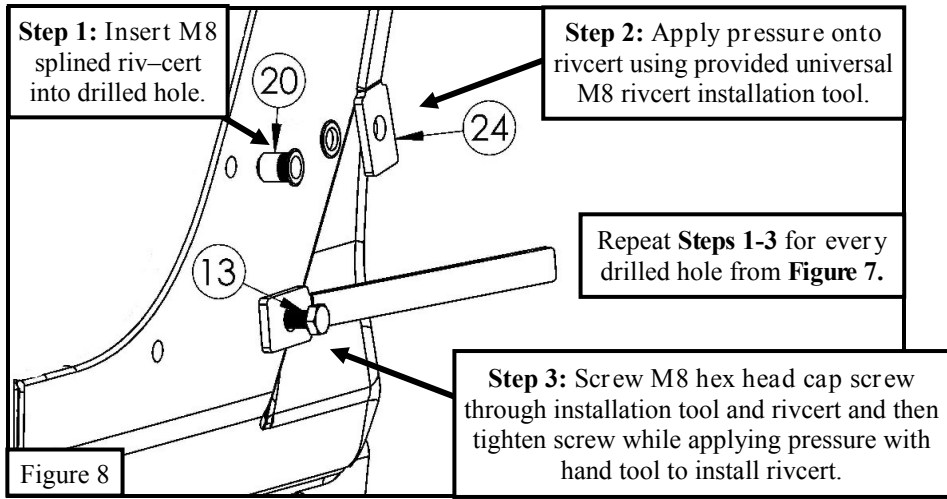

Figure 8
9. Locate the provided universal M8 rivcert installation tool, (1) M8 hex head cap screw (Item 13), and (10) M8 splined rivcerts (Item 20). Install the M8 splined rivcerts in the previously drilled holes on the vehicle body using the universal M8 rivcert installation tool and M8 hex head cap screw. Refer to **Figure 8**. **Note:** Do not attempt to use the any of the other provided screws for this; they may strip.